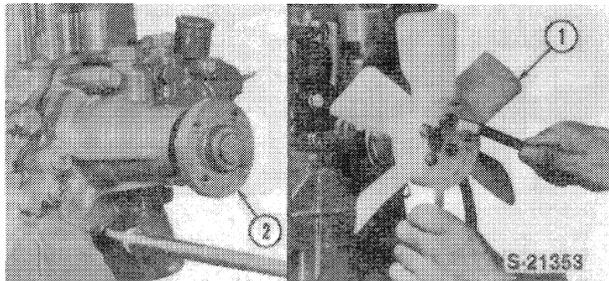

Figure 54
- 2. Remove the coolant fan, Figure 54.